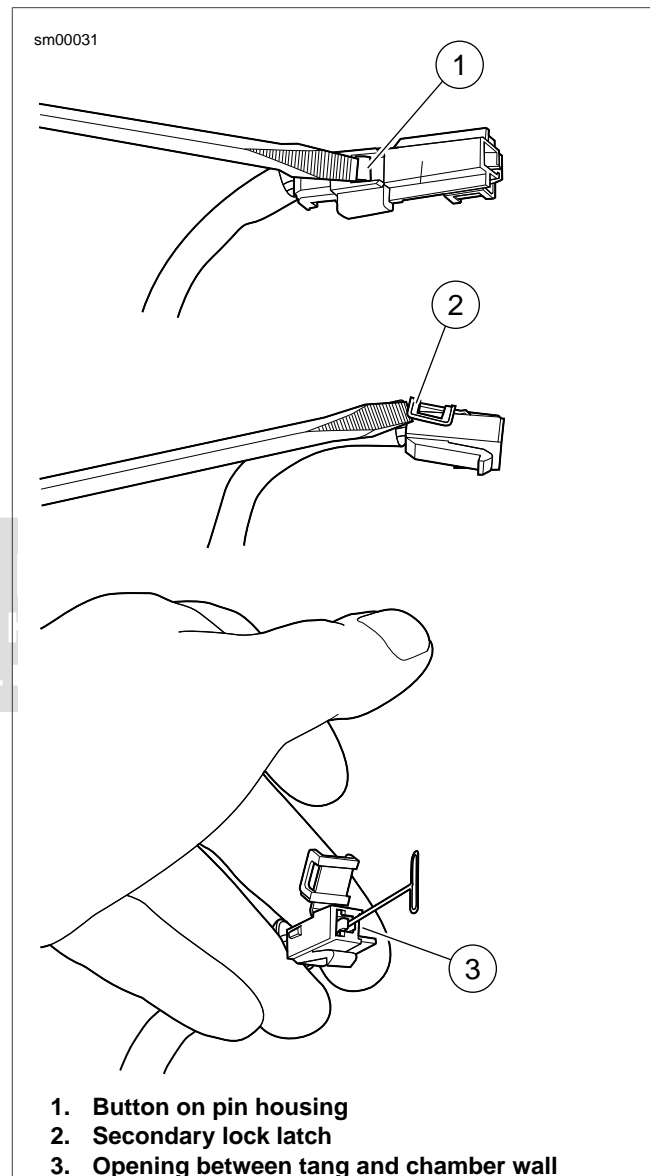

Figure A-23. 480 Metri-Pack Connector: Remove Socket Terminal
See Figure A-23. Using small flat blade screwdriver, depress button (1) on pin housing (red wire) side of the connector and pull apart the pin and socket housings.
1. See Figure A-23. Bend back the latch (2) slightly and free one side of secondary lock, then repeat to release the opposite side. Rotate the secondary lock outward on hinge to access terminal in chamber of connector housing.
2. On the mating end of the connector, note the tang in the square shaped opening centered next to the terminal. Gently insert the point of a stick pin or large safety pin into the opening (3) between the tang and the chamber wall until it stops.